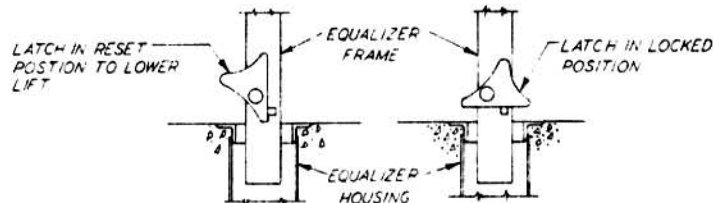

FIGURE 4
9. Replace frame in housing, Fig. 4. Bolt frame to yoke. Check to be sure frame is centered, fore & aft in housing. If not, loosen and shim between plate & yoke. Retighten bolts to 50 ft. lbs. torque.